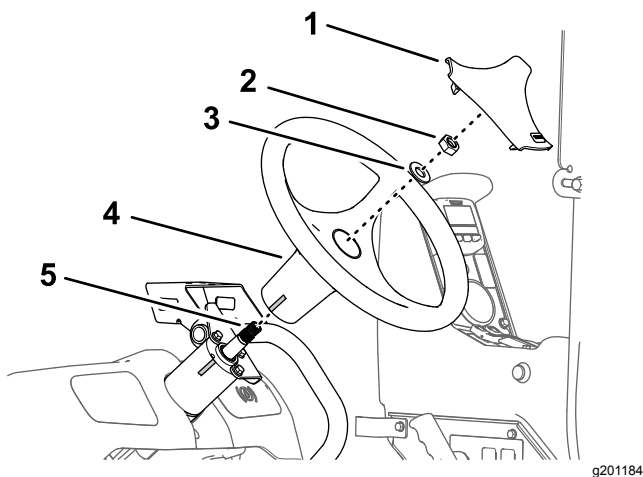

Figure 162
1. Align the tape mark on the steering wheel to the tale mark on the housing of the steering valve (Figure 162).
2. Assemble the steering wheel onto the shaft of the steering valve (Figure 162) with the washer (5/8 inch) and nut (5/8 inch) that you removed in